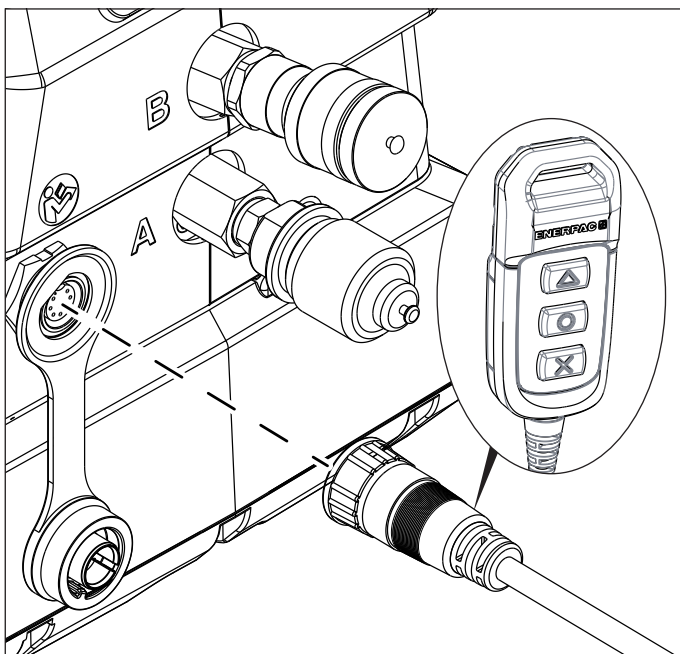

Figure 4: Remote Pendant Connection
1. Remove the dust cap from the connector at the front of the pump and connect the pendant cable. See Figure 4.